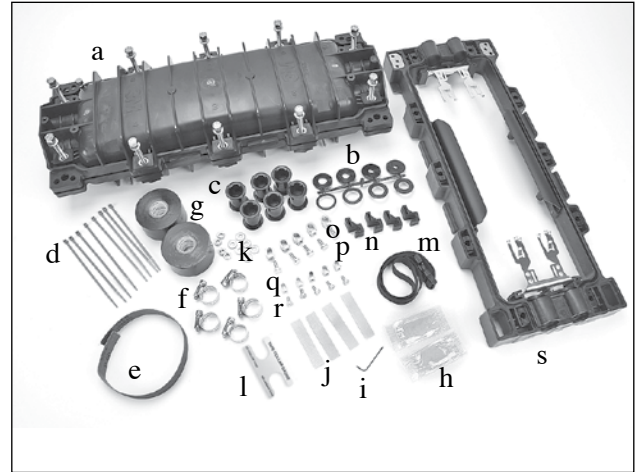

Figure 4
4.4 3M™ Fiber Optic Splice Closure 2178-S +81 Kit Contents (Figure 4):